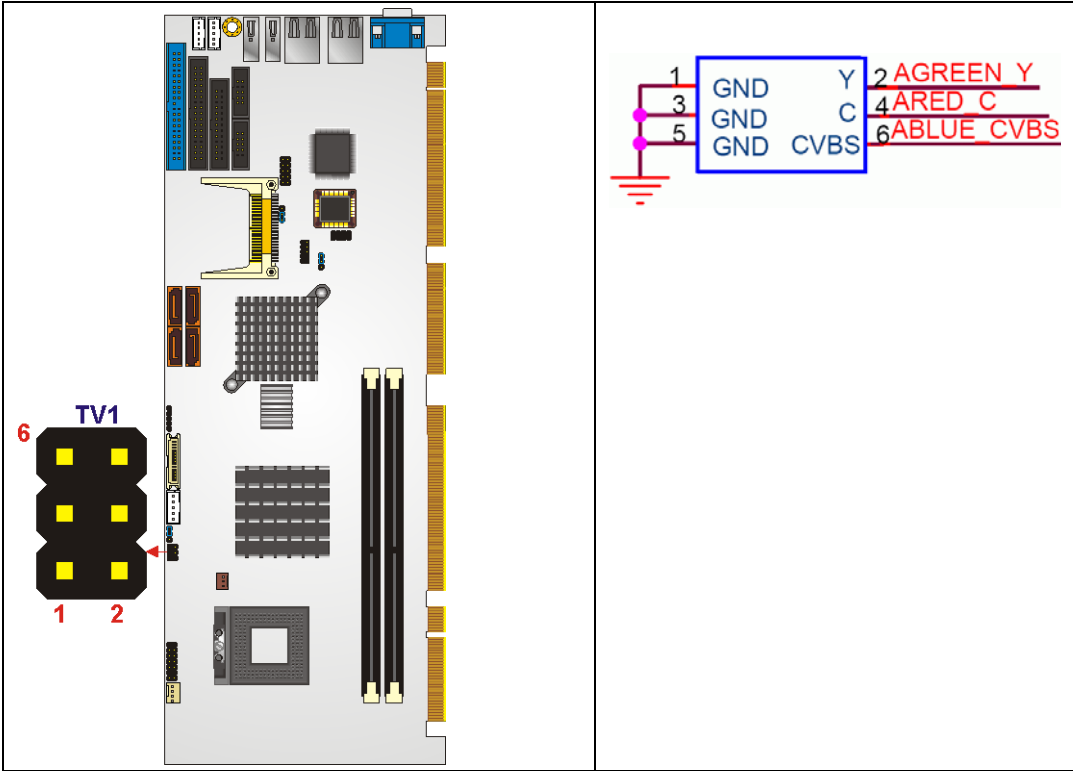

Figure 4-18: TV Connector Pinout Locations
- CN Location:** See Figure 4-18